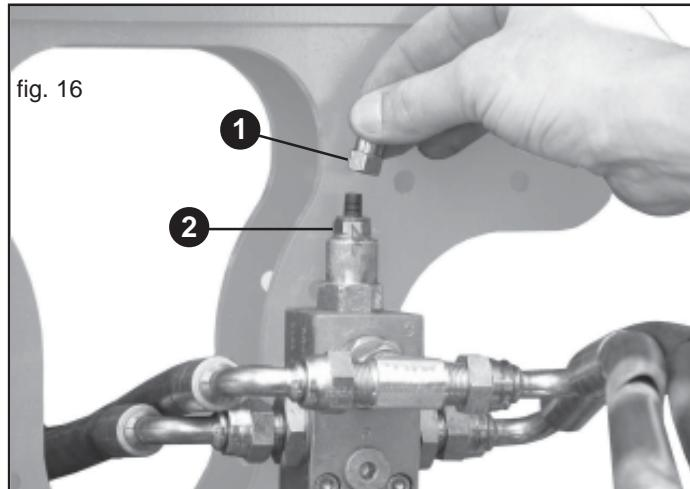

fig. 16
The hydraulic system of the side toolbars has a valve (Fig. 16) that is suitably adjusted according to the size of the equipment with the highest pressure that can be exerted on the system:
- 2) Unscrew and remove the valve plug (1, Fig. 16) and slacken the nut (2).
- 5) When the adjustment has been made, tighten the nut (2, Fig. 16) and insert the valve plug (1).